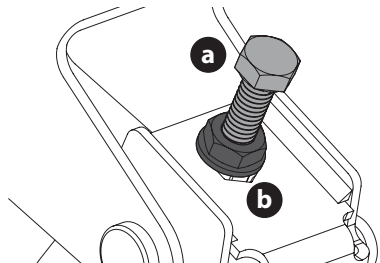

Figure 38
3. Locate the adjustment bolts (a) on the left and right side of the deck (Figure 38).
4. Loosen, but do not remove, the jam nuts (b) on the adjustment bolt. Adjust either the right or left adjustment bolt up or down as necessary until the side-to-side heights are equal (Figure 38).
5. When proper adjustment is achieved, re-tighten the jam nuts (b). Tighten to 200 in-lbs (23 N-m) (Figure 38 on page 28).